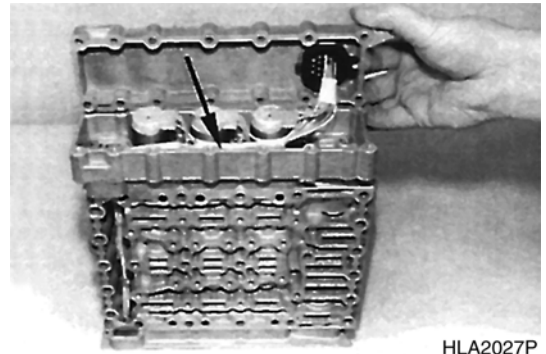

Figure 77
- L. Install gaskets (Figure 77) and fasten cover using socket head screws.